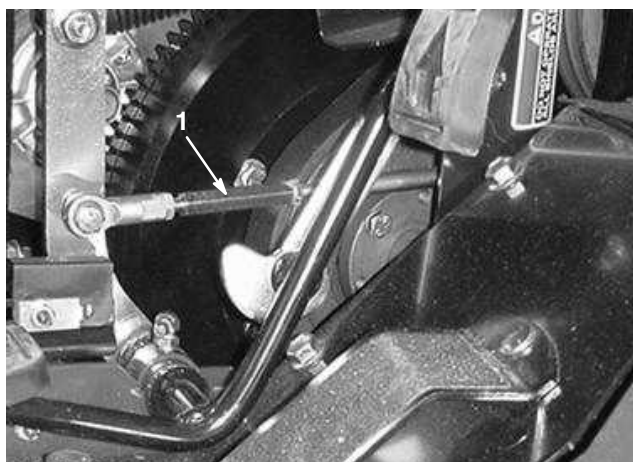

Figure 59
2. Loosen the jam nuts on each end of the traction rod barrel (Fig. 59).